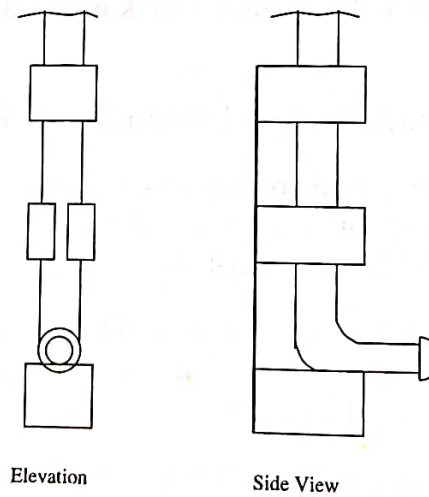

Figure 1.25: A latch-bolt system.
19. Draw the workspace of a latch-bolt system shown in Fig. 1.25.